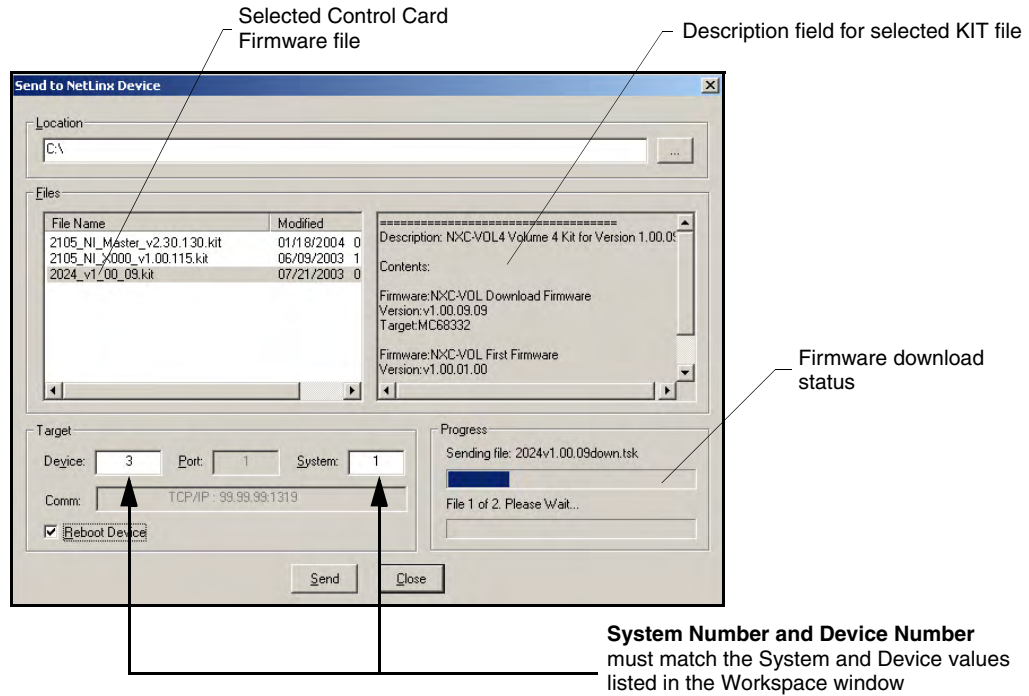

FIG. 34 Select Control Card firmware file for download page (via IP)
- Select **Tools > Firmware Transfers > Send to NetLinX Device** from the Main menu to open the Send to NetLinX Device dialog (FIG. 34). Verify the target's **Device and System** numbers matches the value listed within the System folder in the Workspace window.
- Select the Control Card's KIT file from the **Files** section (FIG. 34).